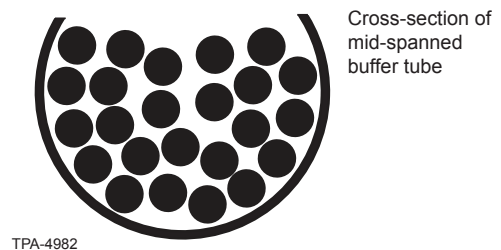

Figure 23
- Step 5:** Retrieve the required fibres for splicing (Figure 23).